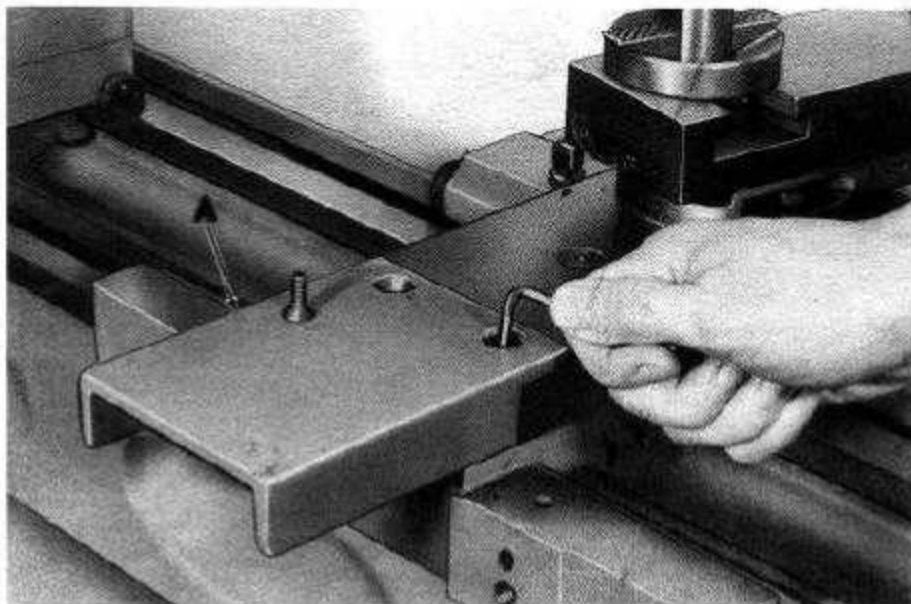

Figure 1
3. Remove chip guard (A, fig. 1) from cross slide.